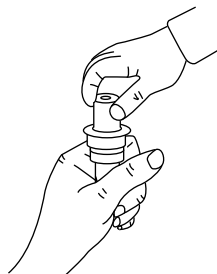
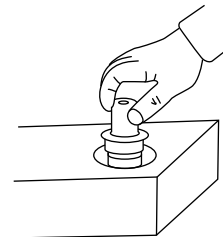

Fig. 2
Fig. 3
- 4- After drilling is complete, you are ready to drop the anchoring bases into place. First, screw all plugs on the anchoring bases and then prepare approximately 1000 ml of fast setting grout with water. This quantity will allow you to install 4 to 5 anchoring bases. When your grout is ready, fill one hole at the time with grout up to 2,5 cm (1 inch) from the rim. Then place the level on top of the anchoring base (FIG 2) and push it into place making sure that your level is centered and your anchoring base is flush with the curb (FIG 3 and 4).